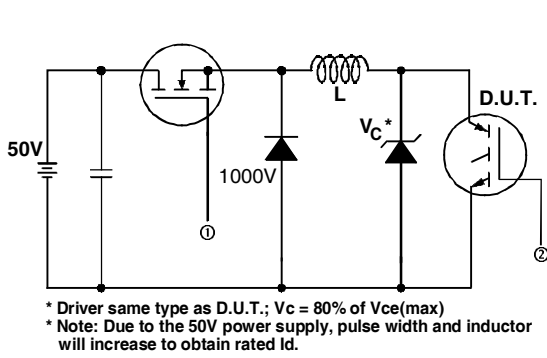

Fig. 13a - Clamped Inductive Load Test Circuit
- ② $V_{CC} = 80\%(V_{CES}), V_{GE} = 20V, L = 10\mu H, R_G = 50\Omega$, (See fig. 13a)
- ③ Repetitive rating; pulse width limited by maximum junction temperature.
- ④ Pulse width $\leq 80\mu s$; duty factor $\leq 0.1\%$.
- ⑤ Pulse width $5.0\mu s$, single shot.